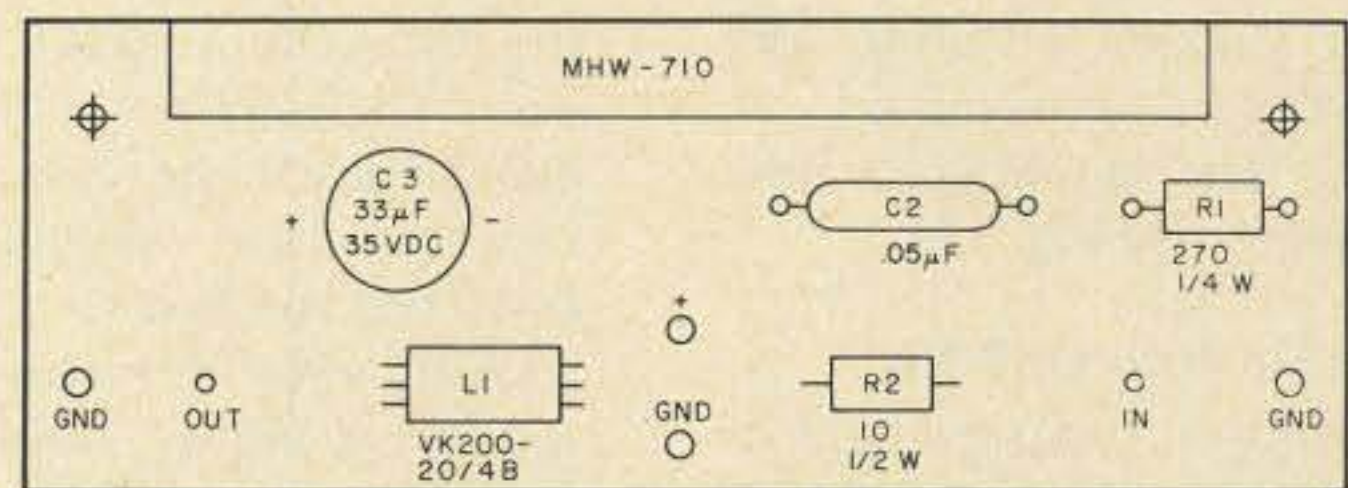
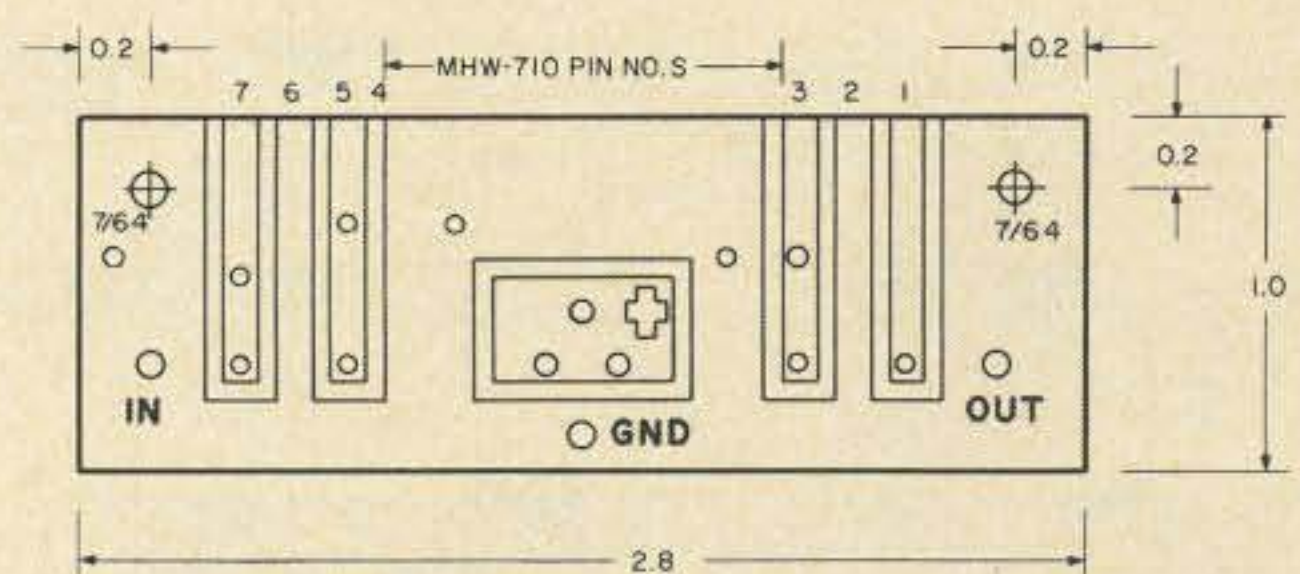

Fig. 6. 10 Watt ATV amplifier PC board, component side.
Fig. 7. 10 Watt ATV amplifier PC board, foil side. All dimensions in inches. Board is glass.
2. Referring to Fig. 6, mount all components to PC board. (Foil layout for board is shown in Fig. 7.)
6. Solder all seven pins of the module to the PC board (pin numbers shown in Fig. 7).